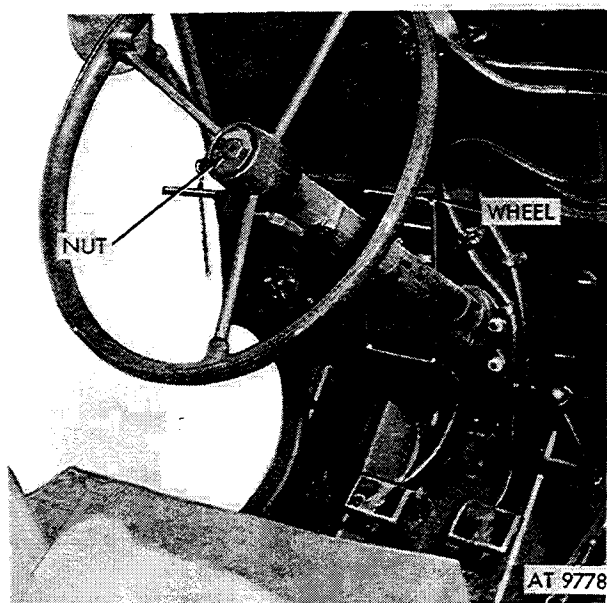

Figure 2-356. Remove steering wheel shaft nut.
(1) Remove horn switch assembly (para 2-117):
(2) Remove steering wheel shaft nut (fig. 2-356).